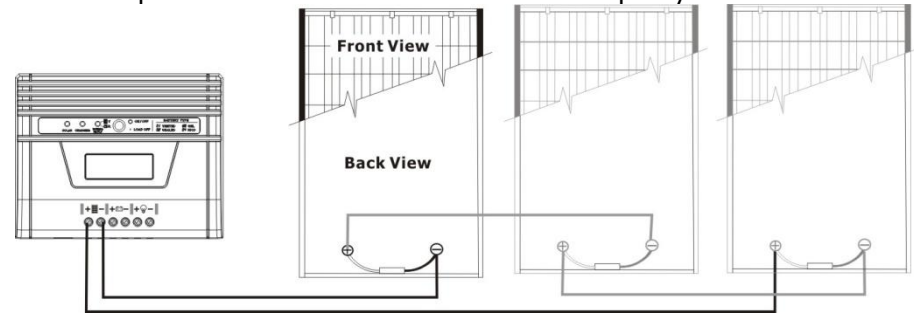

Fig. 8
- 2) **Multiple solar modules in series connection (Refer to Fig. 8):** All modules must be equal in voltage and amp hour capacity. The sum of their voltages must be equal to the nominal DC Voltage of the unit. And, the sum of their solar power must not exceed the maximum capacity of the unit.